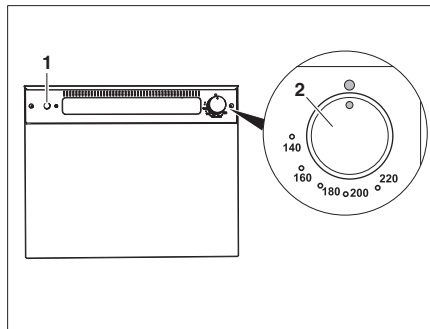

Fig. 345 Gas oven (Thetford)
- Gently press the control knob (Fig. 345,2) and turn left to any position.
- Press the ignition switch (Fig. 345,1) repeatedly until there is a flame.
- Turn the control knob (Fig. 345,2) to "O". The flame fades.